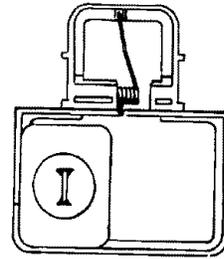

Fig. 15
1. Positioned on hood boss per illustration in Fig. 15.